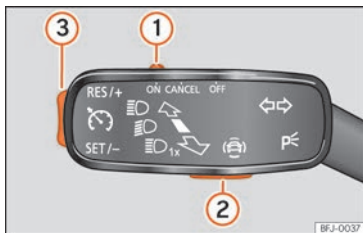

Fig. 256 On the left of the steering column: control and buttons to operate the speed limiter.
If you wish to temporarily switch off the speed limiter, e.g. to overtake, move control »» Fig. 256 **①** of the turn signal lever into position **CANCEL** or the third lever into pressure point **CANCEL** or press button **②** on any lever. »